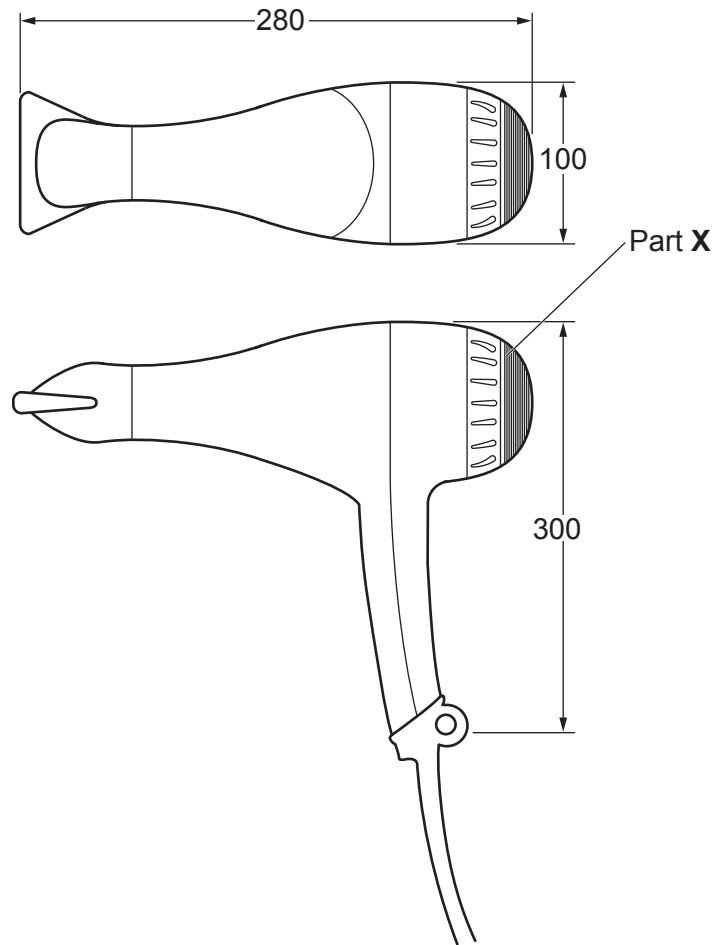

Fig. 6.1
- 6 Fig. 6.1 shows a design for a hair dryer. The hair dryer is powered by mains electricity and held in the hand.